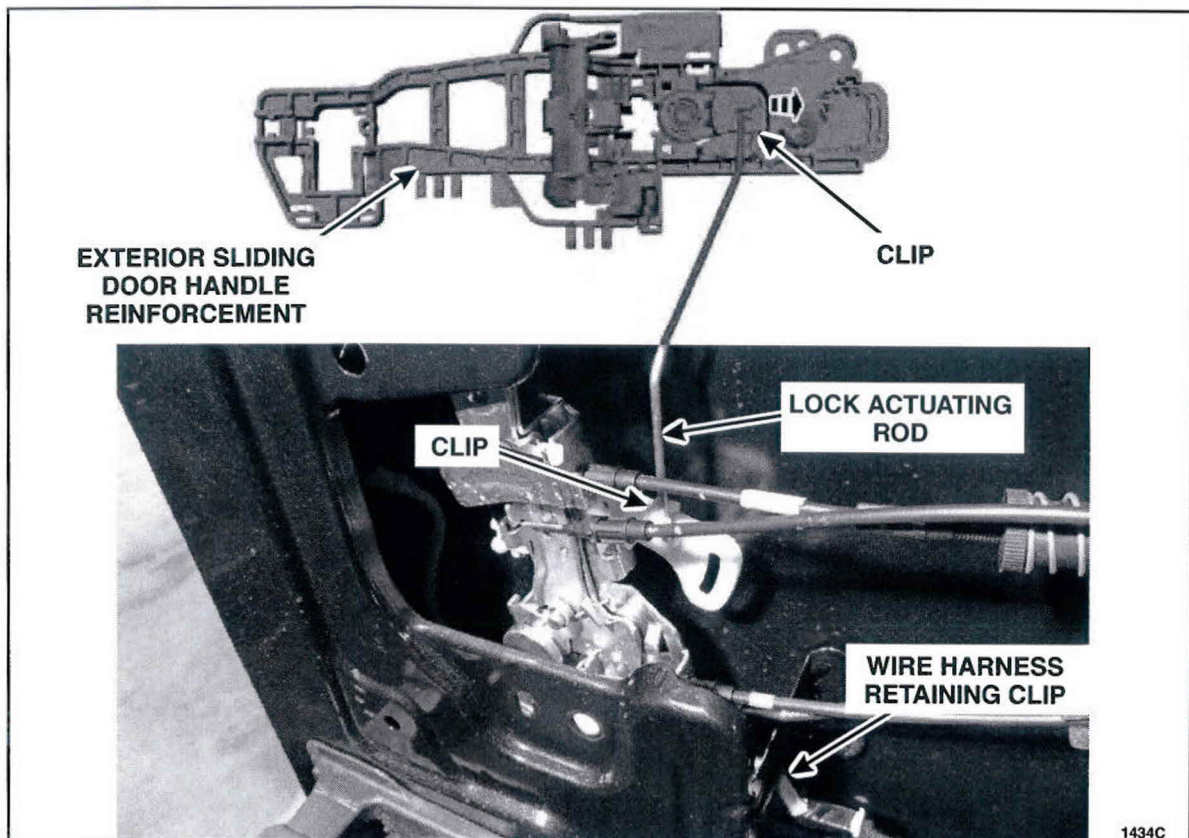

FIGURE 3
5. Release the clips and remove the lock actuating rod, then remove the wire harness retaining clip from the sliding door cable control assembly. See Figure 3.
17. Install the lock actuating rod and engage the clips. Attach the wire harness retaining clip onto the sliding door support bracket. See Figure 3.